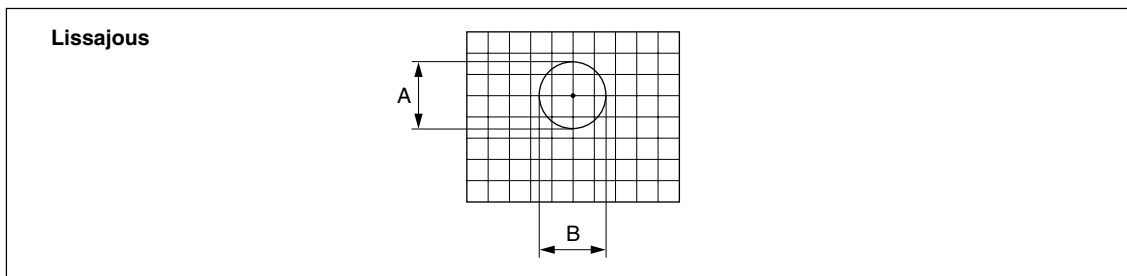

Fig. 3-16
- 5 Move the scale, and make sure that the amplitudes A and B (see Fig. 3-16) of the Lissajous' figure are within the range of the specified values over the entire length.